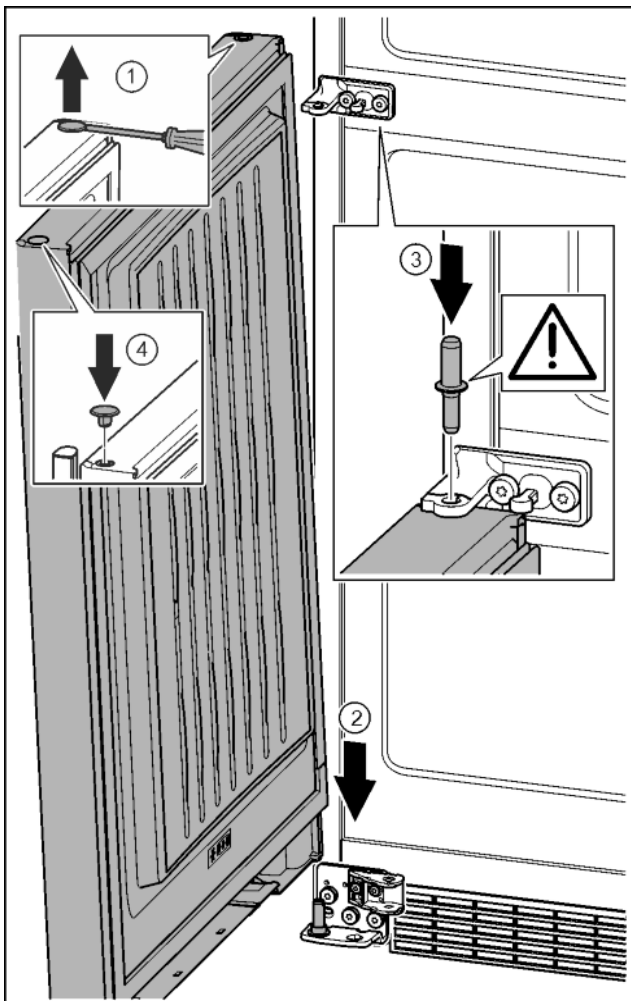

Fig. 34
- ▶ Carefully lift up the plugs and remove them with a slotted screwdriver. Fig. 34 (1)
- ▶ Position the door from above onto the lower bearing bolts. Fig. 34 (2)
- ▶ Insert the middle bearing bolt through the middle bearing bracket into the lower door. Ensure here that the catch mechanism points backwards. Fig. 34 (3)
- ▶ Insert the plugs again on the other side of the door. Fig. 34 (4)